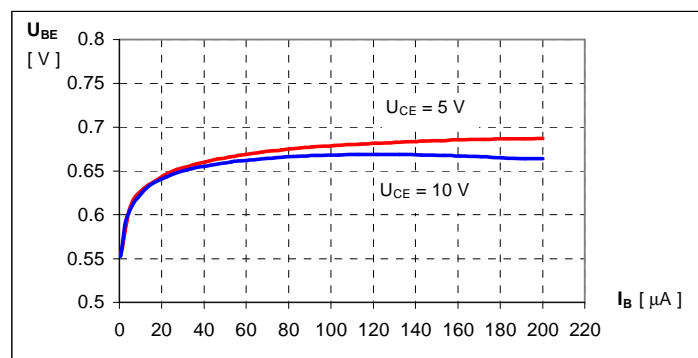

Fig. 3. Family of U_{BE} versus I_B for several values of U_{BE} .
8. Plot the $U_{BE}(I_B)$ dependences. As an example the family of U_{BE} versus of I_B curves for two values of U_{CE} is presented in Fig. 3